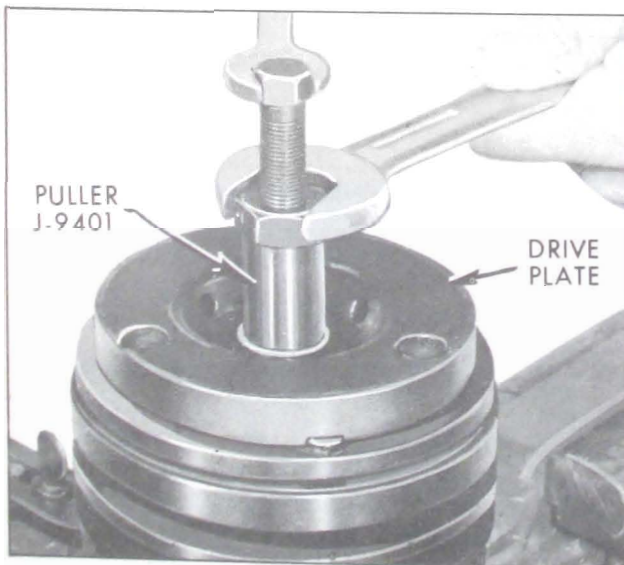

Figure 11-76—Removing Drive Plate Assembly
2. Screw threaded hub puller J-9401 into the drive plate hub. Hold body of tool with a wrench and tighten the center screw to remove drive plate assembly. See Figure 11-76.